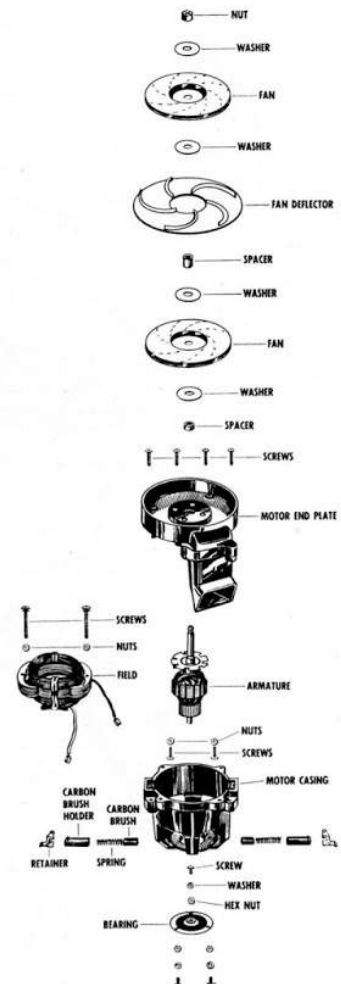

Fig. 2 Motor Assembly
- b. Dismantle as shown in *Fig. 2.*
- Assemble parts in reverse order. *See Fig. 2.*